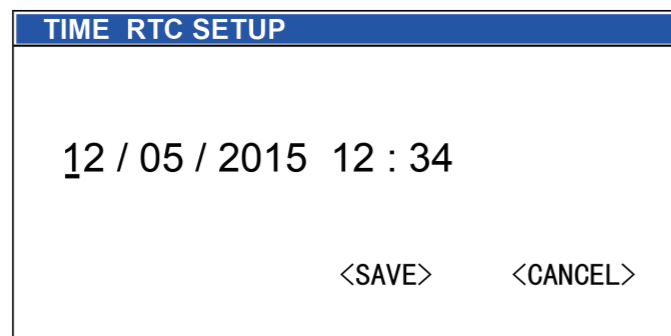

Figure 6.5.1
- a: In the "SYSTEM SETUP" menu, select <TIME RTC> and press [CH/ENT] to open the local time settings dialog, as shown in Figure 6.5.1.